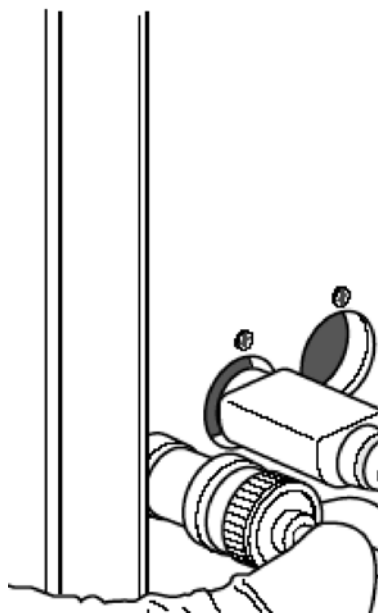

Fig. 11.4. Connecting the pH probe electrical connector.
13. Connect the pH probe's electrical connector to the receptacle on the instrument (Figure 11.4).